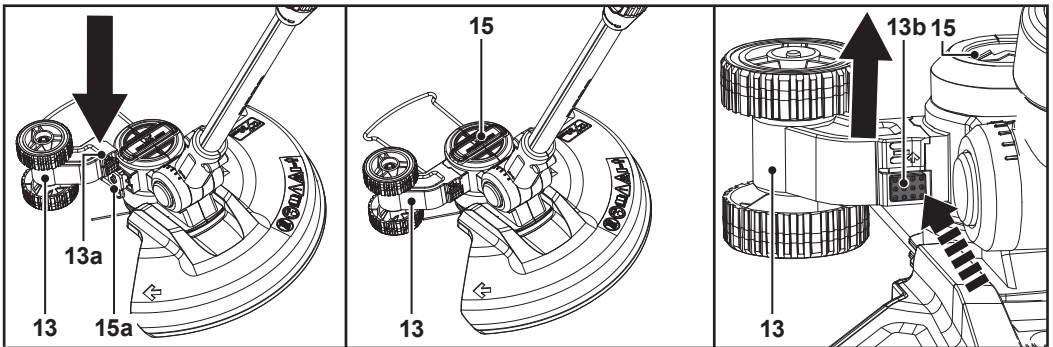

Fig. 2
1. Align the sliding slots (13a) of the edger wheel (13) with the edger support (15a) on the cutting head (15) (Fig. 2).
2. Slide the edger wheel (13) in. Make sure it clicks in place (Fig. 2).
3. **Removing:** Press the release button (13b) and remove the edger wheel (13) from the edger support (15a) (Fig. 2).